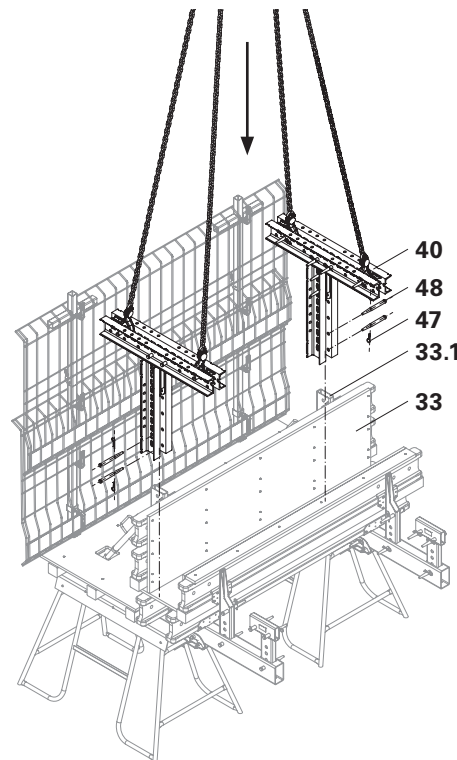
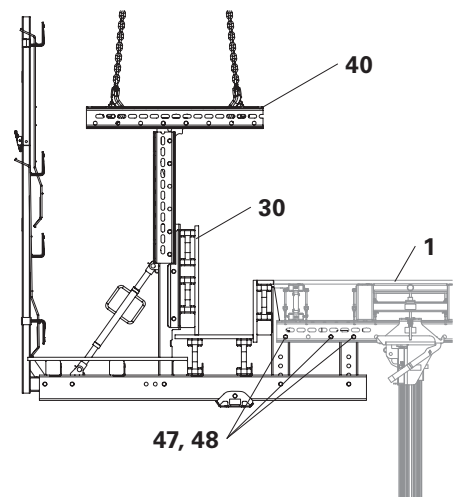

Fig. C1.08
Fig. C1.09
1. Attach 1x Assembly Gallows VD (40) each on the vertical profile for the External Girder (33.1) of the External Formwork VD 250/265 (33) and fix in position with 2x Fitting Pin  $\varnothing$  21 x 120 (48) in each case and secure with Cotter Pin 4/1 (47). (Fig. C1.08)
2. Attach Edge Beam Unit 250/265 (30) on the Assembly Gallows VD (40) with 4-sling lifting gear to the crane.
3. Insert Edge Beam Unit 250/265 (30) on the slab table (1).
4. Mount Edge Beam Unit 250/265 (30) on each side using 3x Fitting Pin  $\varnothing$  21 x 120 (48) and secure with Cotter Pin 4/1 (47). (Fig. C1.09)